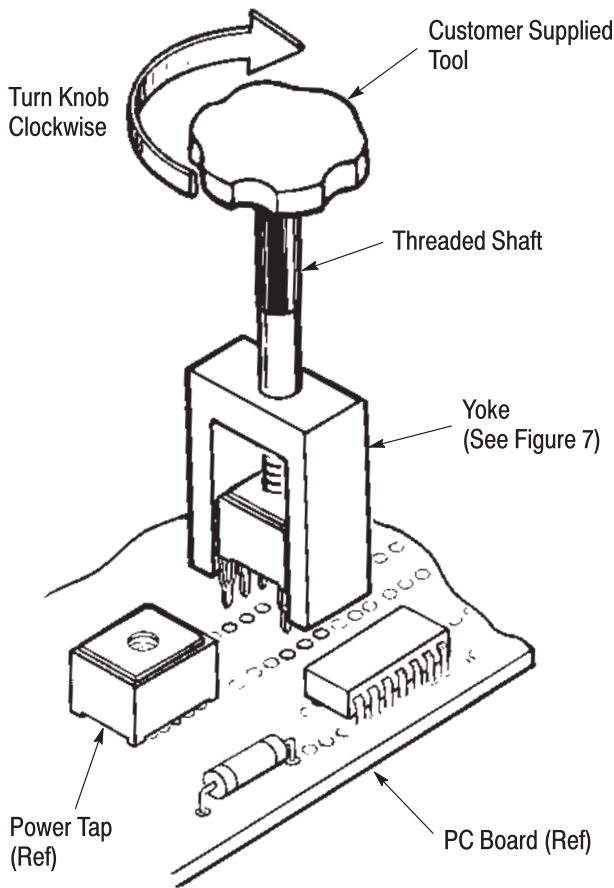

Figure 6
5. REMOVING TAP ASSEMBLY (Figure 6)